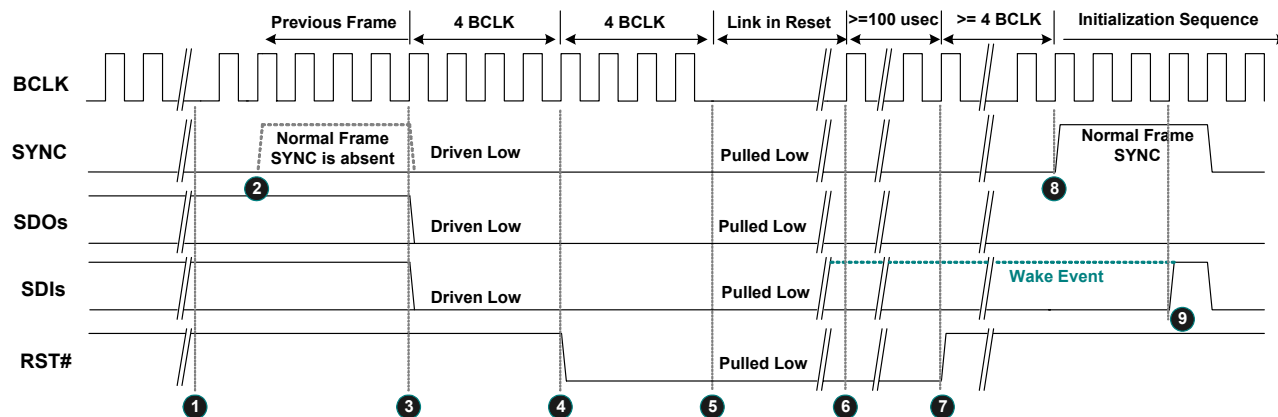

Figure 17. Link Reset Timing
3. Software initiates power management sequences. Figure 17, page 25, shows the ‘Link Reset’ timing including the ‘Enter’ sequence (❶~❺) and ‘Exit’ sequence (❻~❸)